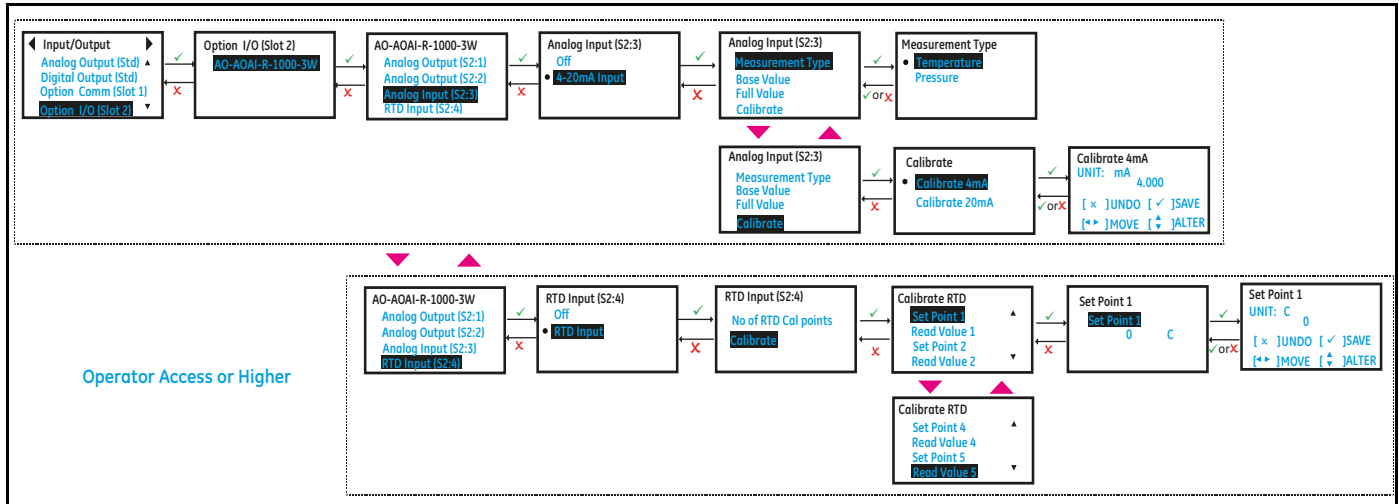

Figure 31: Setting up Option I/O Analog Input/RTD Input
4. If you are connecting an Analog Input, choose **[4-20mA]** option. Figure 31 below, shows the options available.
2. Use steps as in Section 3.3.2 to navigate to the *Input/Output* settings page. Refer to Figure 31 above, select **[Option I/O (Slot 2)]** and press **[ENTER]**.